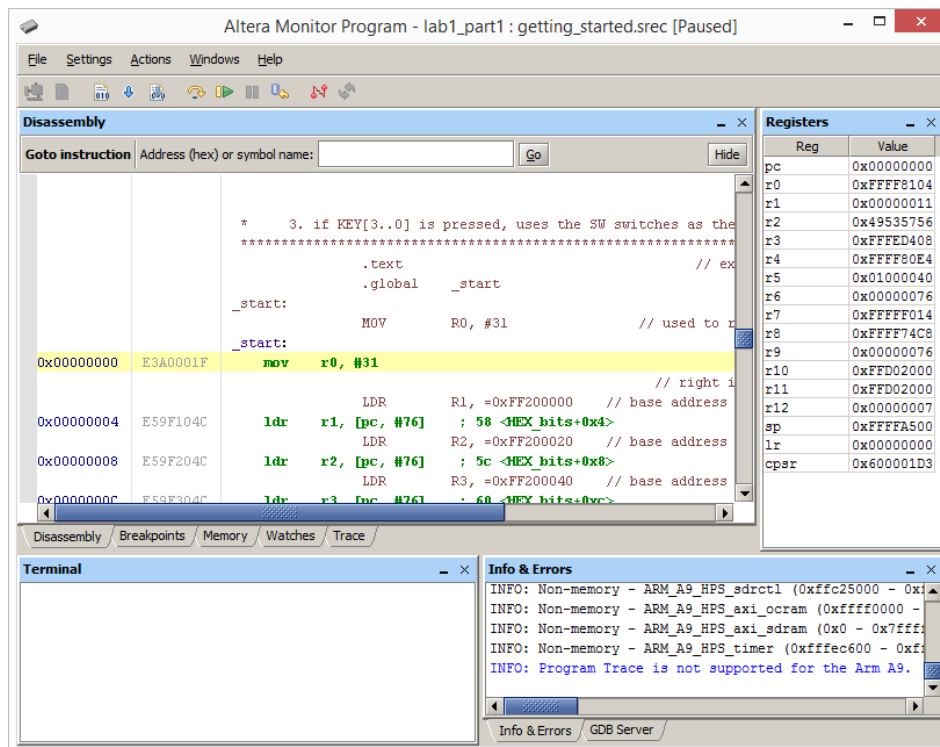

Figure 8: The monitor window showing the loaded sample program.
9. Having downloaded the DE0-Nano-SoC Computer into the Cyclone V SoC chip on the DE0-Nano-SoC board, we can now load and run the sample program. In the main Monitor Program window, shown in Figure 8, select **Actions > Compile & Load** to assemble the program and load it into the FPGA chip. Figure 8 shows the Monitor Program window after the sample program has been loaded.